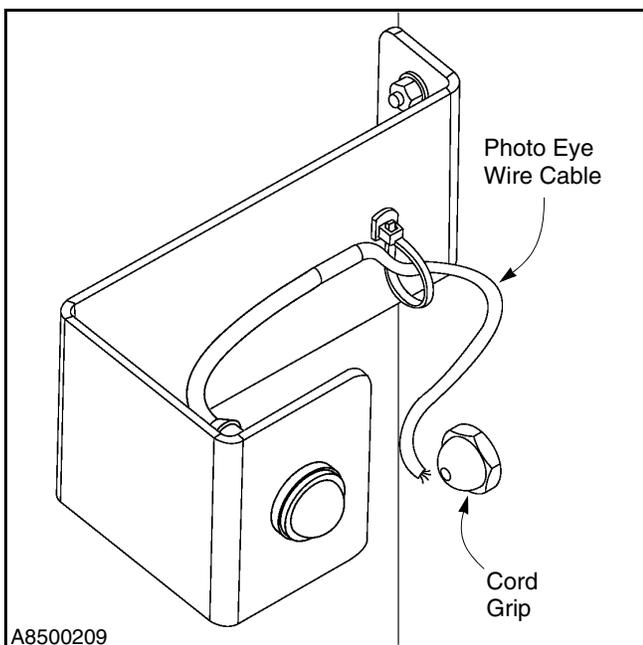

Figure 27
4. Route the photo eye wire cable through the cord grip. Pull out the majority of slack between the photo eye and cord grip (do not pull the cable too tight). Tighten the cord grip to secure the cable. (See Figure 27.)